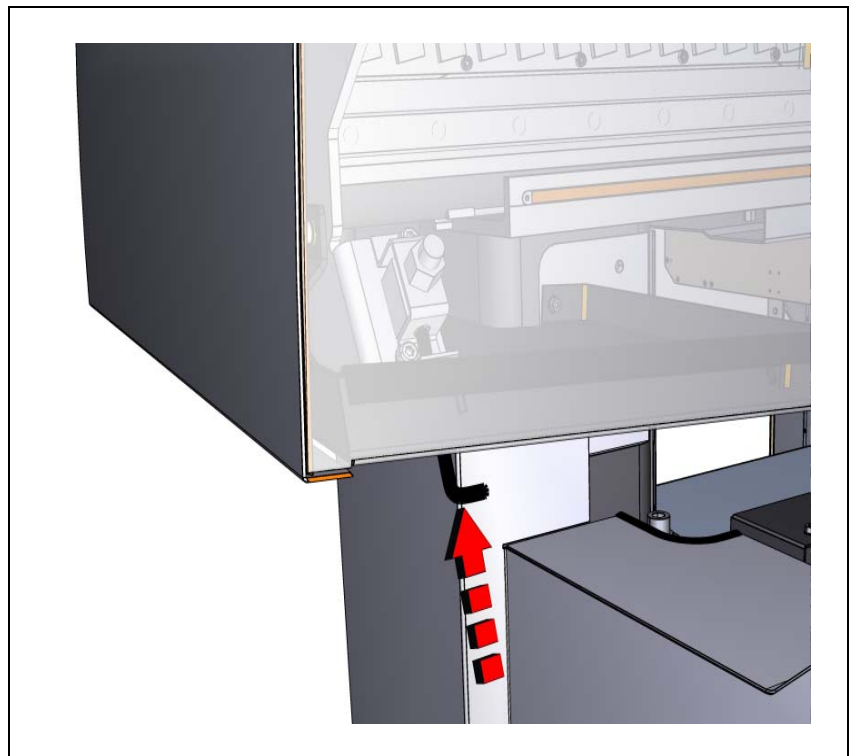

Figure 5-10. Opening the top hood.
3. Open the upper top hood by gently pressing a pointed object, for example an M6 Allen key through the holes and releasing the lock on each side of the upper hood. See Figure 5-10.